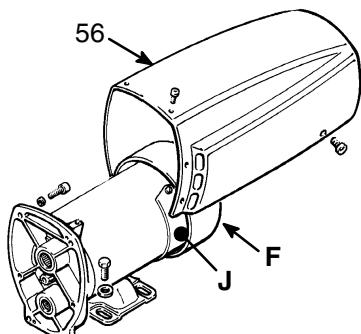

Fig 25–1
NOTE: Replace the brushes when they have worn to less than 1/2 in. Refer to STEP 1, Fig 25–3. Note that the brushes wear differently on each side of the motor, so check them both. Brush Repair Kit 220–853 is available.
1. Remove the motor shield (56). Remove the inspection covers (J) and gaskets (K) on each side of the motor. Refer to Fig 25–1.
2. Push in the spring clip to release its hooks from the brush holder. Pull out the spring clip. Refer to Fig 25–2.
3. Loosen the brush lead terminal screw. Pull the brush lead away, but leave the motor lead terminal in place. Remove and discard the brush and spring. Refer to Fig 25–3.